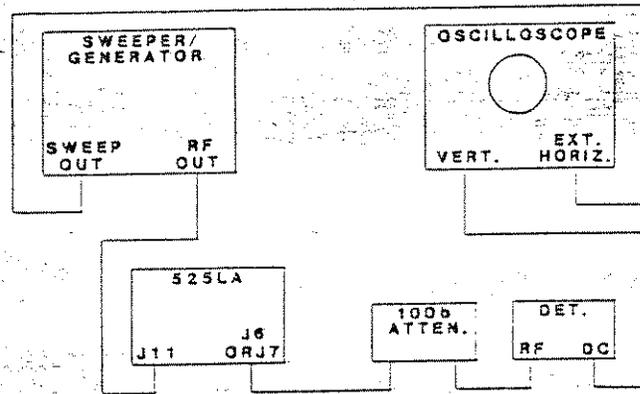

Figure 6-1. Low Power Sweep Test Set Up
- a. Set up the test equipment as shown in Figure 6-1.
- h. Reconnect the power amplifier module under test per Figure 6-1.